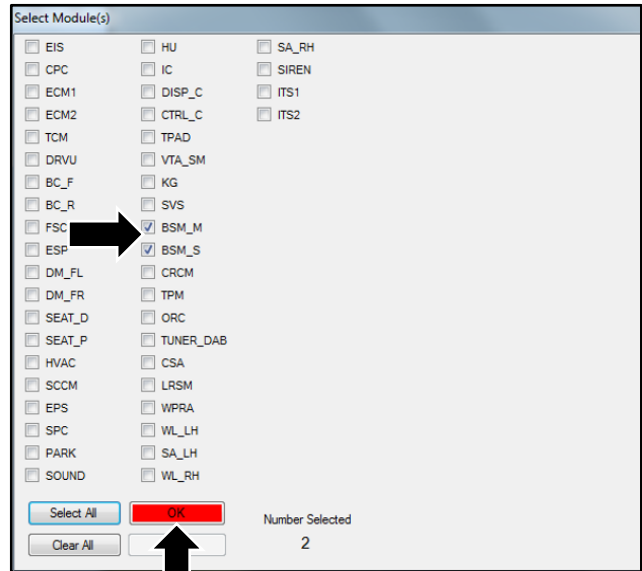

Figure 2
- Select the "BSM_M" and "BSM_S" modules then click the "OK" button (refer to Figure 2).